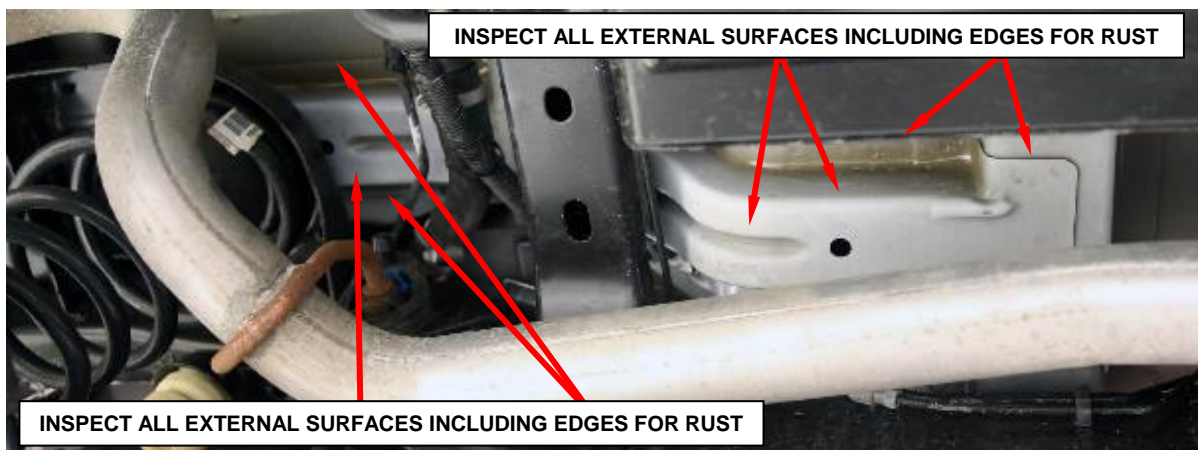
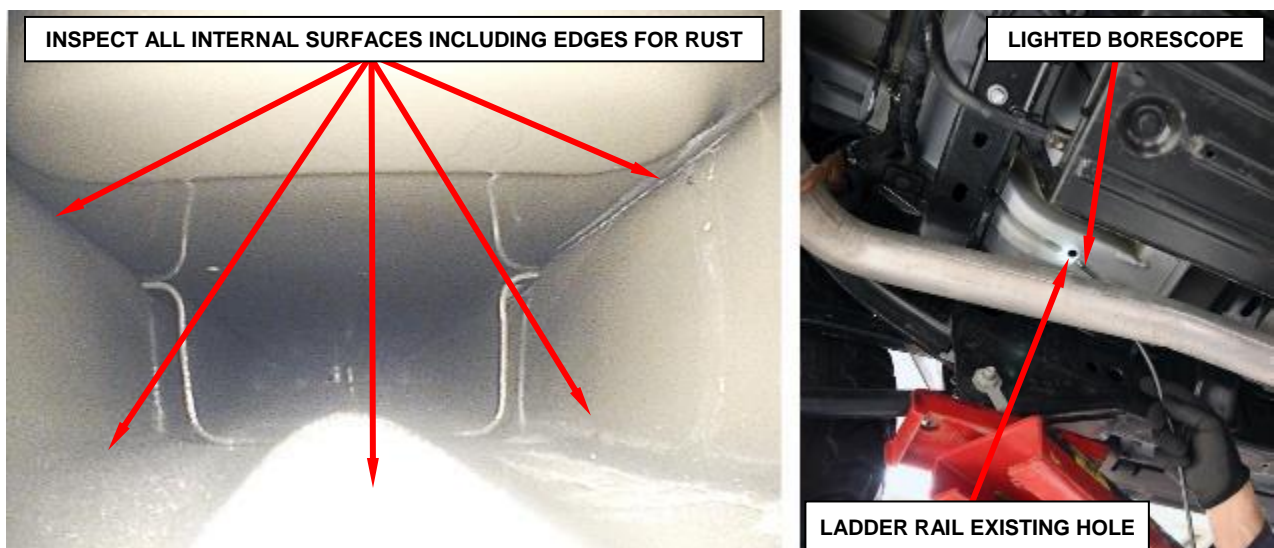

Figure 4 – Inspect Ladder Rail External Surfaces and Edges for Rust
Figure 5 – Inspect Ladder Rail Internal Surfaces and Edges for Rust
2. Inspect the left side rear longitudinal under body ladder rail for any visible red rust. Visually inspect the external surfaces and edges for rust (Figure 4). Use a lighted borescope inserted through the existing holes in the ladder rail to inspect the internal cavity surfaces and edges for rust (Figure 5).